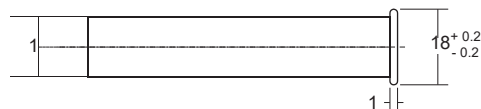

Fig. 10. Pipe (dia 15 mm) for flat sealing ring connection
- Pipe end construction: see fig.: 10.